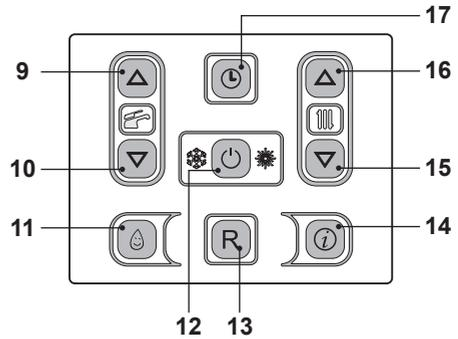

Fig. 2.7
Enter "programming mode" by holding down key 17 for 5 seconds (Fig. 2.7) until the display indicates the (L) symbol. Use keys 15 (decrease) and 16 (increase) Fig. 2.7 to set the time, day and date values, using keys 9 and 10 to move from one parameter to the next. Press key 17 briefly to save the values en-
- Press the key 12 for 2 seconds until both  symbol appear on the display Fig. 2.7.
The output temperature of c.h. water can be adjusted by acting on keys 15 (reduce) and 16 (increase) (Fig. 2.7) from a minimum of about 25°C to a maximum of about 85°C. Press one of the two keys once to display the "set" value. Press again to access the modification.
However, if the ambient temperature is not comfortable, the flow temperature of the heating plant can be increased or reduced by $\pm 15^\circ\text{C}$ by acting on keys 15 (reduce) and 16 (increase) (Fig. 2.7).
The heating temperature of the zone valve controlled by a thermostat is configured on the boiler control panel using keys 15 and 16 Fig. 2.7.